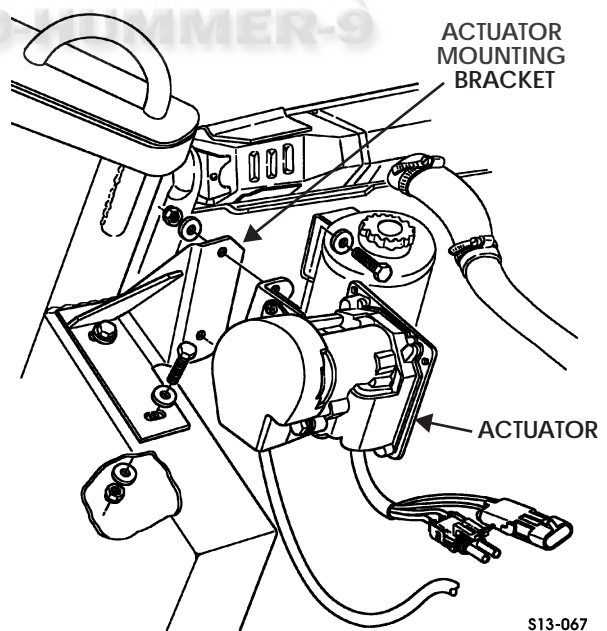

**Figure 13-66: Actuator Electrical Connector Location**
1. Disconnect the actuator/cruise control cable electrical connectors from the cruise control harness connectors (Figure 13-66).
2. Remove cable retainer and actuator/cruise control cable from injector tube retainer on engine valve cover (Figure 13-66).
3. Connect actuator/cruise control electrical connectors to cruise control harness connectors (Figure 13-66).
6. Secure cable retainer and actuator/cruise control cable to injector tube retainer on engine valve cover (Figure 13-66).